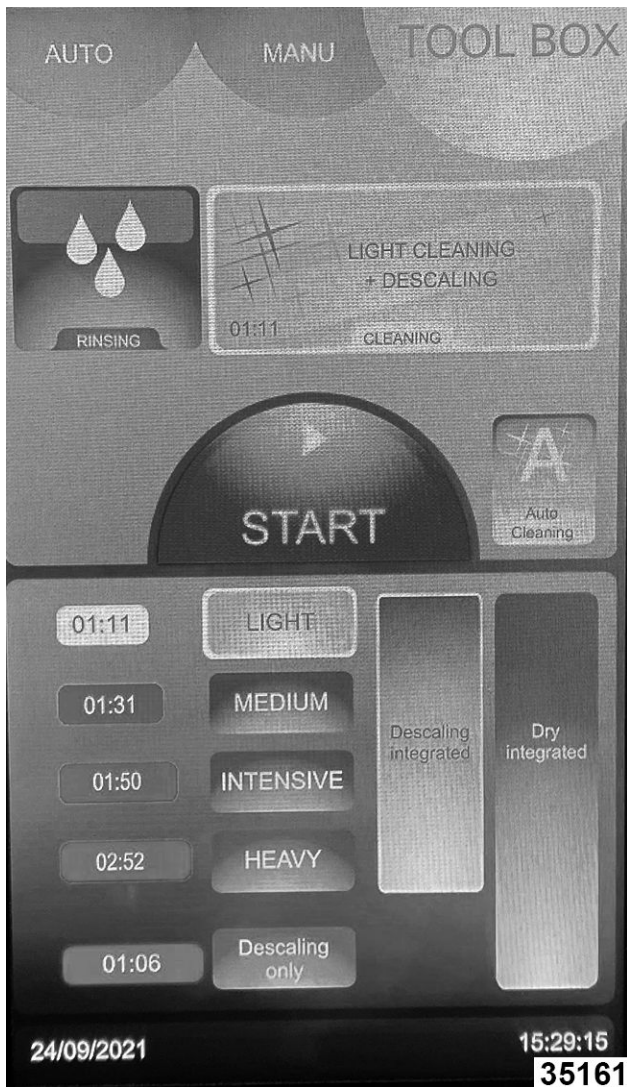

Fig. 121
2. Select the desired cleaning action / time (Fig. 121).